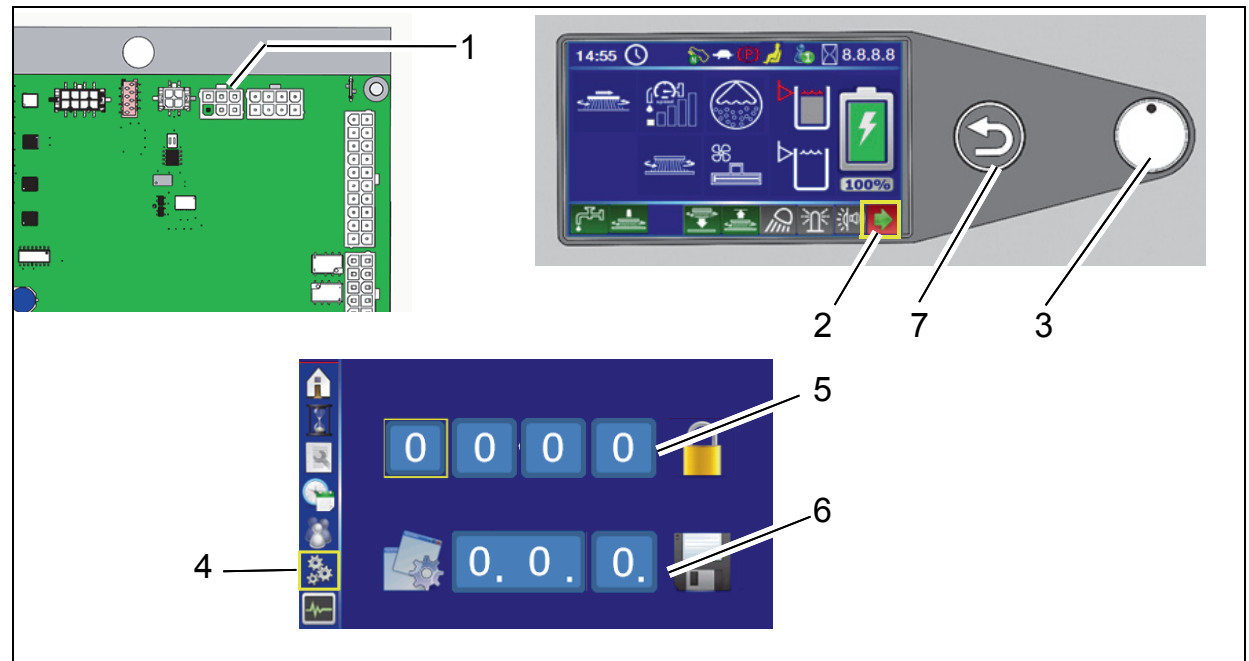

Fig. 3
Connect diagnosis plug to slot X20 of controller A1 (Fig. 3/1).
2. Select the arrow softkey (Fig. 3/3) on the control panel using the turn-push knob (DDS) (Fig. 3/2) and press to access the sub-menu.
3. Select the configuration menu in the sub-menu (Fig. 3/4).
4. Enter the 4-digit code in the configuration menu at the top (Fig. 3/5):
5. Select the value of the option under (Fig. 3/6) in the configuration menu and save by pressing the DDS. After confirmation of the final digit, *OK?* appears. Press the DDS again to save the value. The saved value is now displayed in green. If the value is not to be saved, exit the menu using the return button (Fig. 3/7).